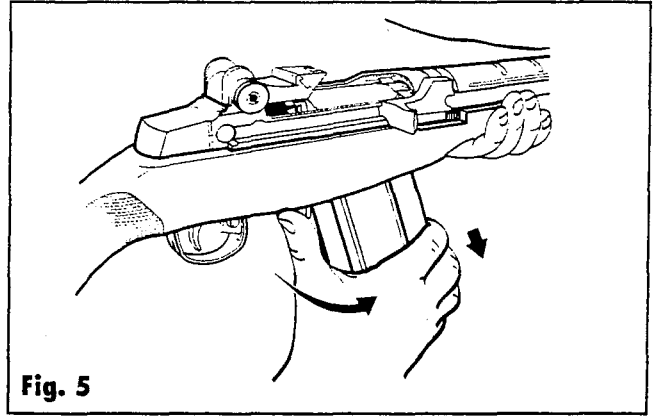

Fig. 5
1. **Place the gun on safety, point it in a safe direction,** and remove the magazine. Push the magazine release with your thumb and rock the magazine down and forward [see figure 5].